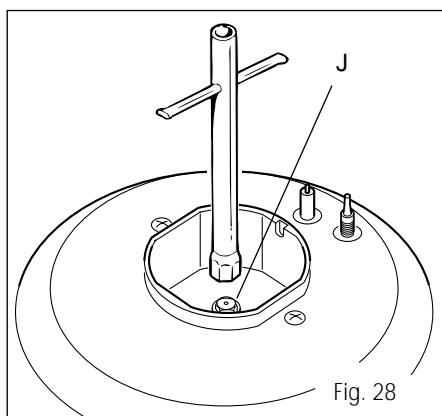

Fig. 28
- Using a wrench, substitute the nozzle injectors "J" (Fig. 28) with those most suitable for the kind of gas for which it is to be used (see "Table for the choice of the injectors").